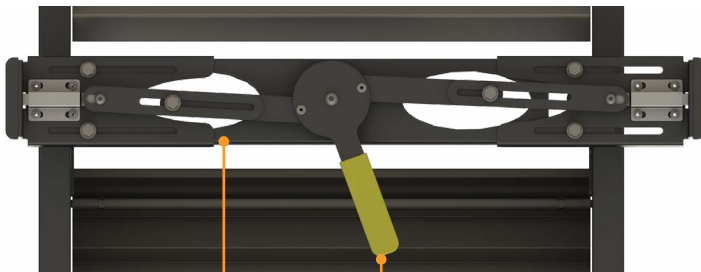

Fig.15
2. Pull out each end of the transport lock (**Fig.15**) as far as it will go until it nearly contacts the doorframe.